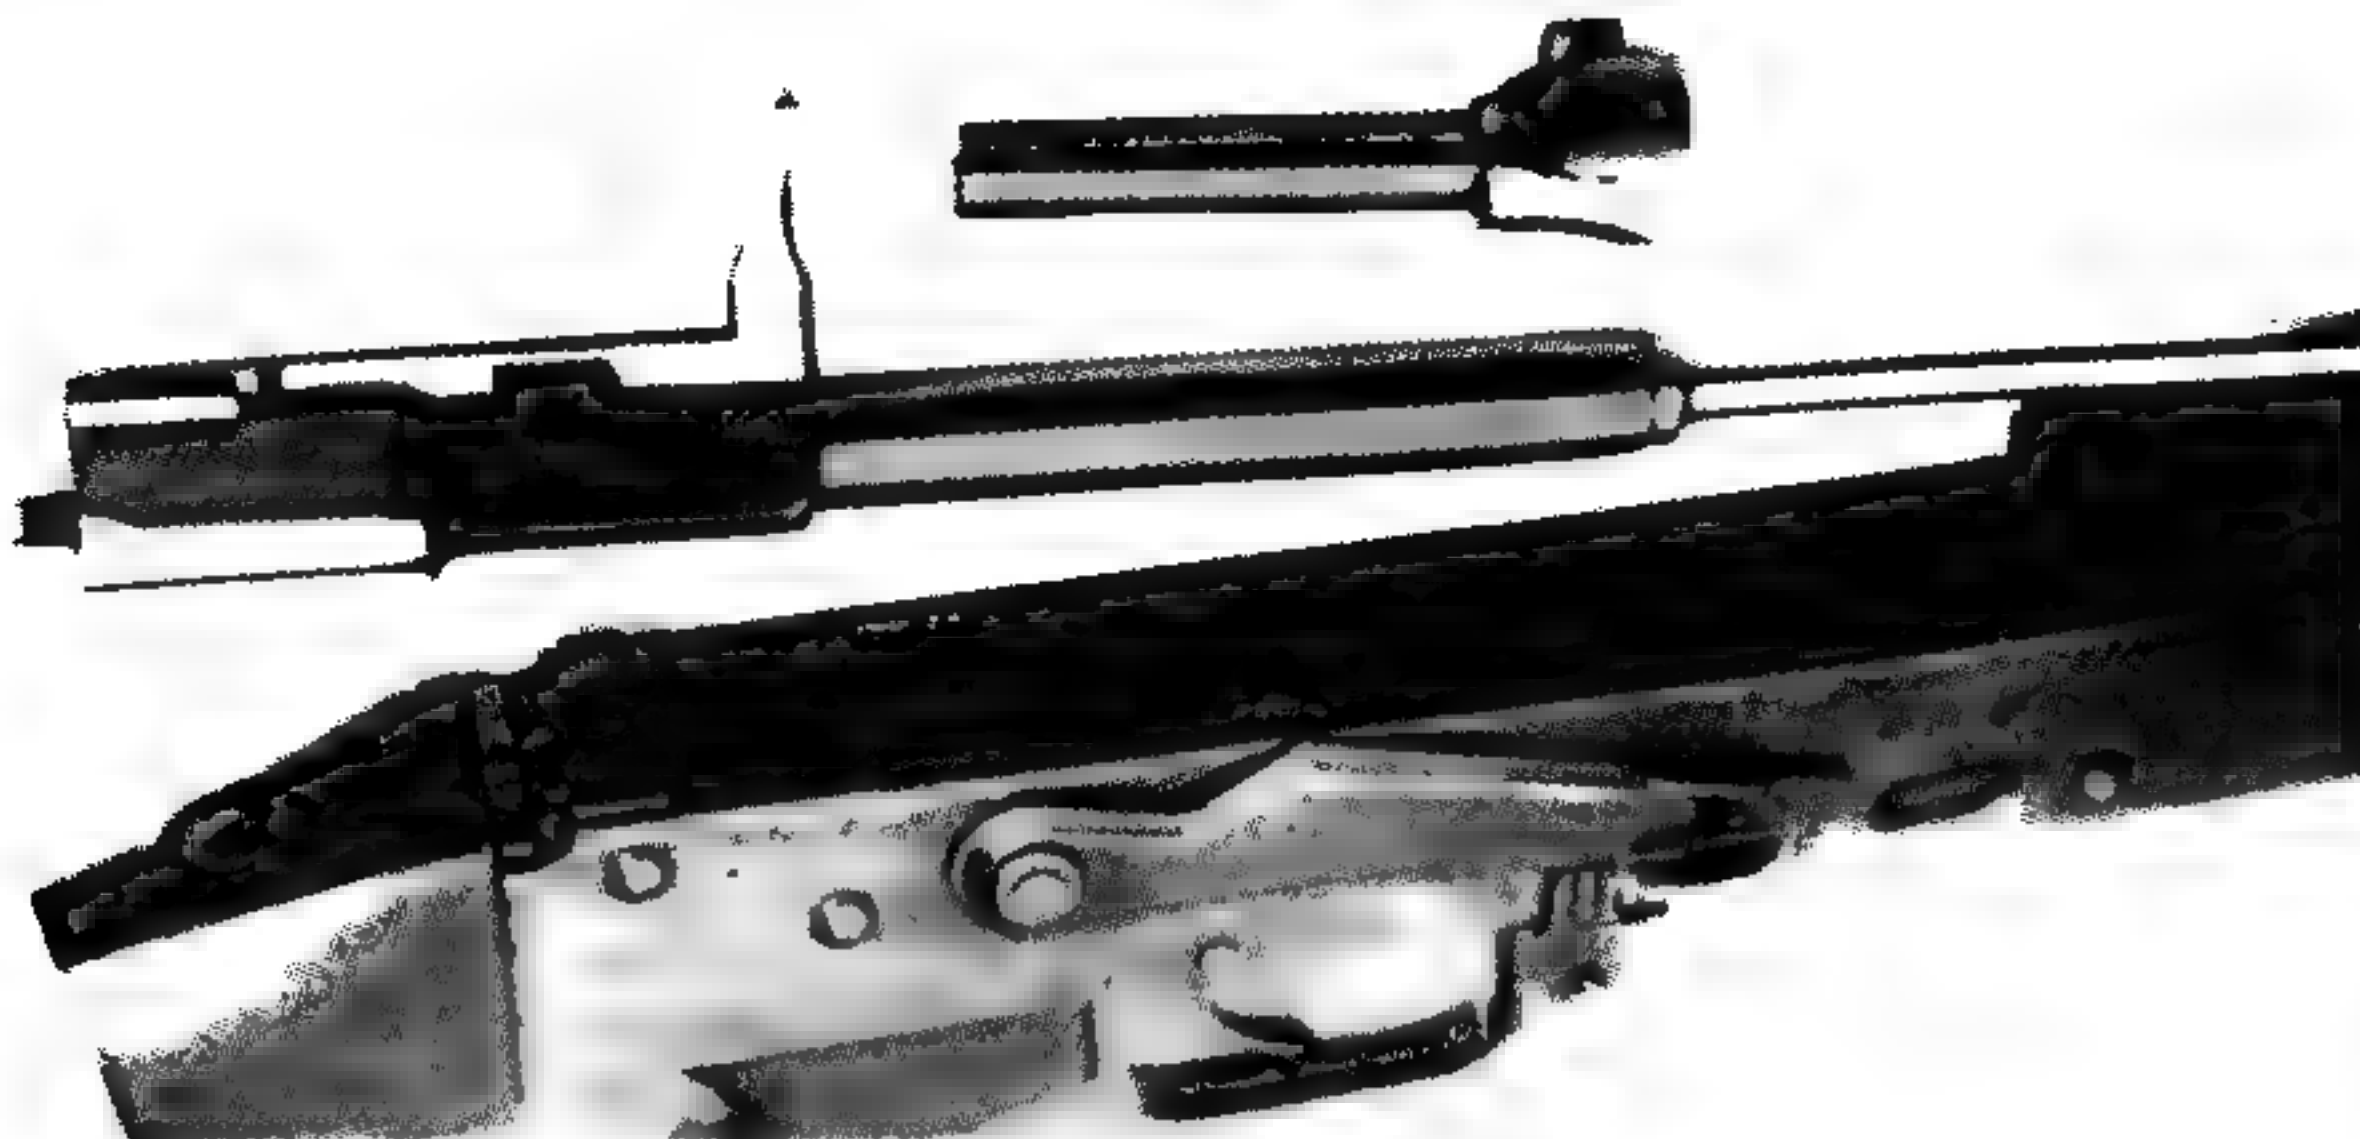

Figure 15
6. Remove the bolt from the bolt carrier by pivoting the bolt clockwise to the rear and turning an additional  $\frac{1}{4}$  turn. Next, remove the bolt from the bolt carrier by extracting it toward the gas piston. (See Fig. 15.)